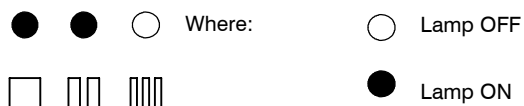

Fig. 38
- 6 Press the reset button C repeatedly (2 times) until the lamps E give the indication as in Fig. 38 (boiler mode).